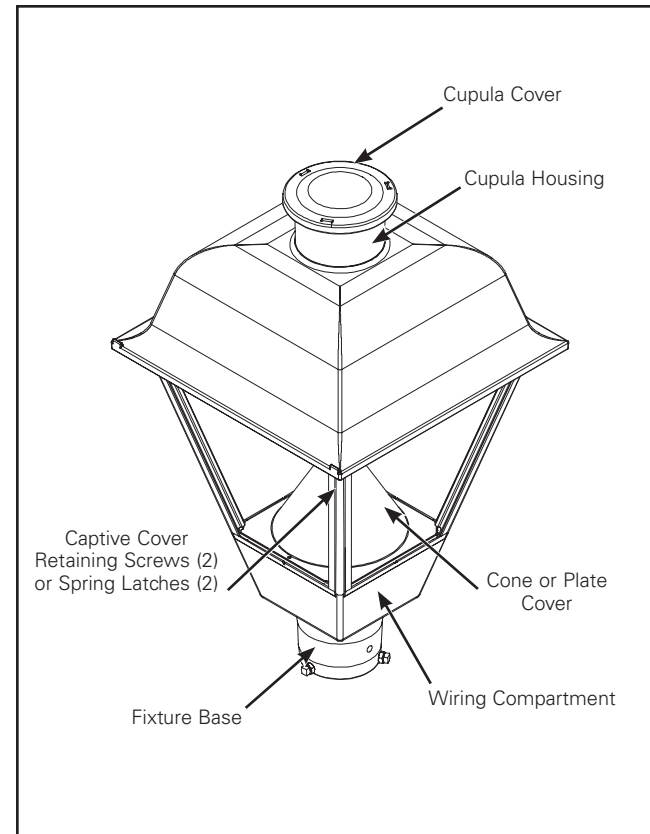

Figure 1.
Standard Fixture with Lens Installation (Figure 1 – 4.)
1. Loosen the captive cover retaining screws using 5/16" driver, or loosen spring latches and open the hinged top cover of the fixture. (Figure 1.)